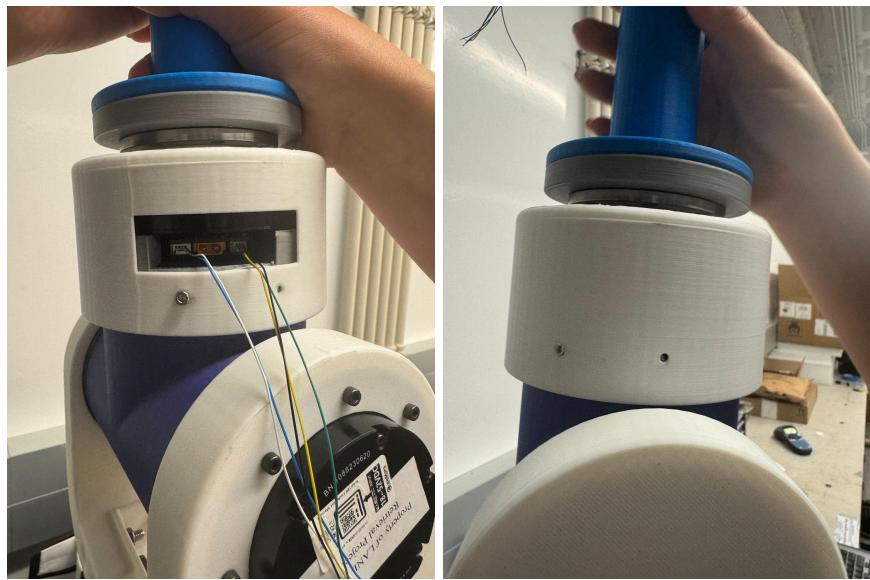

Figure 41: J4 Motor Cap to J4 Motor Holder
- Fasten two M3x5 screws in the holes of the J4 Motor Cap that line up with the J4 Motor Holder Heat set inserts. See Figure 41. *We only fastened one because we drilled these holes ourselves. If you skip this step the Motor Cover will move when you test J4.